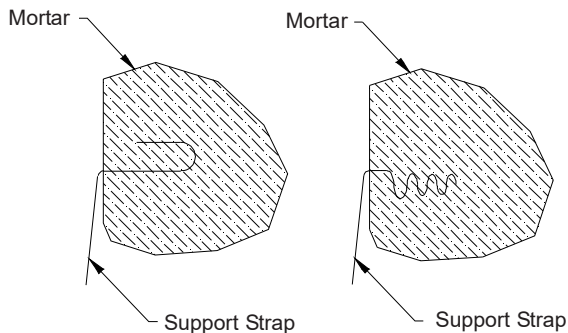
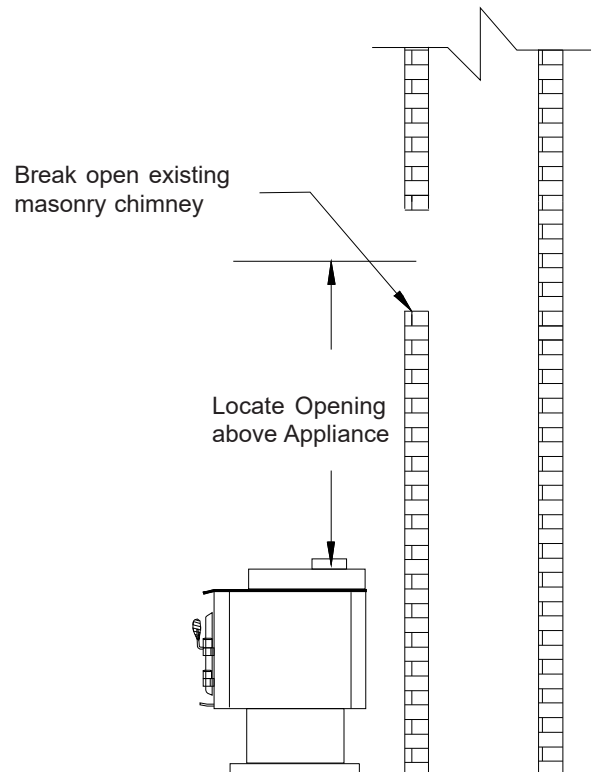

**FIGURE 4**
**FIGURE 6**
- Cement /Stacked Bricks Support (see Figure 3). The Rigid Tee and Tee Cap is resting on a solid base support (cement base or stacked brick/rubble). The Tee branch is connected to the heating appliance with appropriate connector pipe. Removal of soot during cleaning is done through the tee branch assembly after the heating appliance has been disconnected (see FIGURE 3). NOTE: You will still be required to re-support at the top of the masonry chimney to accommodate the termination of the Liner. See Figure 4.
The Tee and Rigid Sections are supported with the 2 Support Straps, installed on the last Rigid Length which is positioned 4 to 7 inches below the chimney crown with 1/8" pop rivets (see Figures 4, 18 and 18).
In a new construction installation (Figure 6), an additional Support Bracket can be installed as the liner system is installed. The 4 straps of the Support Bracket are mortared into the chimney walls as per Figure 5.
Bend the 4 straps of the support bracket, feed them through the prepared holes in the chimney walls and mortar them securely in place. Wait for the mortar to set strong enough to bear the weight of the system. You still need to add the Support Straps at the top of the chimney. See Figures 4, 18 and 19).
- The liner assembly will be supported from the top of the masonry chimney with Support Straps (see FIGURES 4, 8, 17 AND 18). For a new construction application a Support Bracket can also be installed lower by preparing at least two holes, about 12 to 18" above the tee branch for the straps of the Support Bracket to be anchored into the bricks (see FIGURE 6).